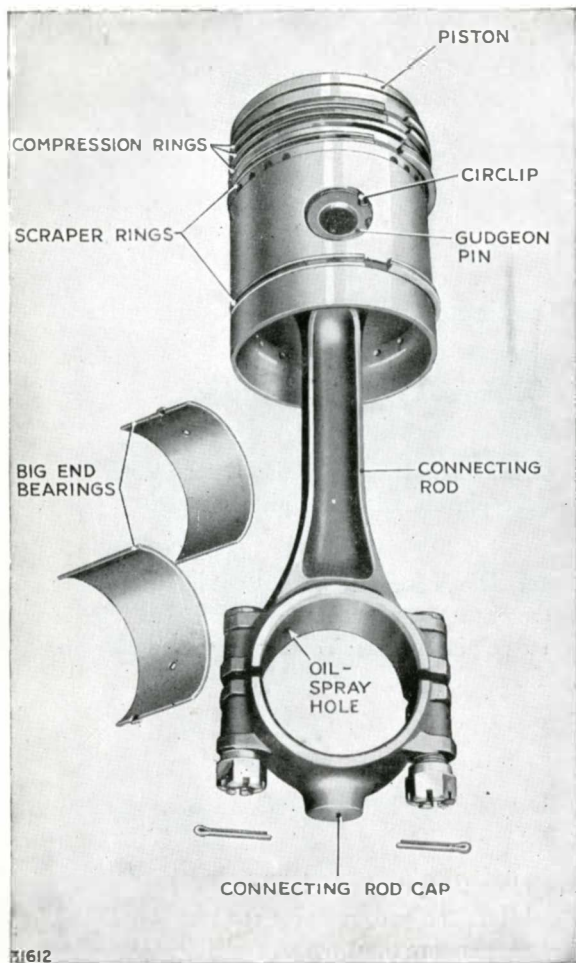

FIG. 35. PISTON AND CONNECTING ROD ASSEMBLY
2. Fit pistons to connecting rods with the offset combustion chamber in the piston heads on the same side as the oil spray hole in the connecting rod big-end, Fig. 35.